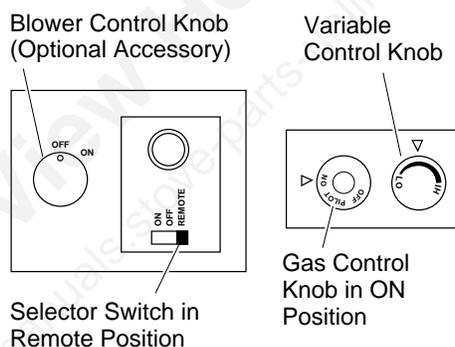

Figure 54 - Setting the Selector Switch, Gas Control Knob, and Variable Control Knob for Remote Operation
1. After lighting, let pilot flame burn for about one minute. Turn gas control knob to ON position. Adjust variable control knob anywhere between HI and LO. Slide the selector switch to the REMOTE position (see Figure 54). **Note:** The burners may light if hand-held remote ON button was on when selector switch was last turned off. You can now turn the burners on and off with the hand-held remote control unit. **IMPORTANT:** Do not leave the selector switch in the REMOTE position when the pilot is not lit. This will drain the battery. **IMPORTANT:** Be sure to press the ON/OFF buttons on the hand-held remote control unit for up to 3 seconds to assure proper operation.